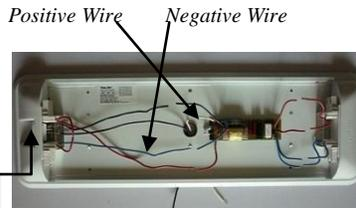

Figure 4 - Fluorescent Tube Fixture showing **Input Positive (+) Power and Negative (-) wires**
4. Next, find the Positive (+) and the Negative (-) wires, *Figure 4*.